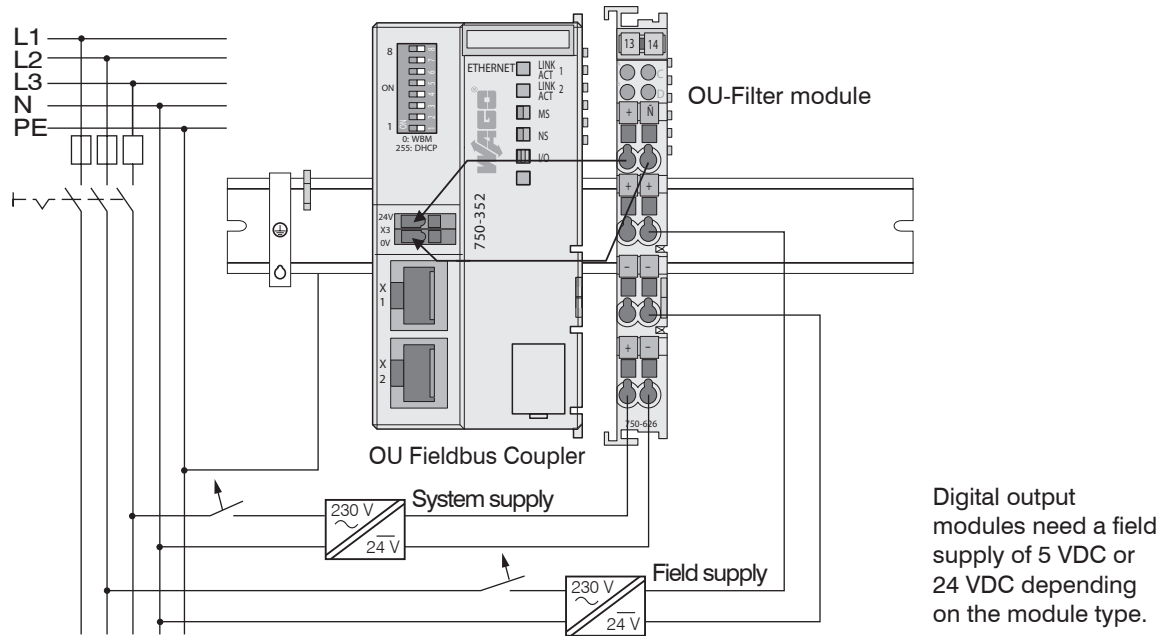

Fig. 24 Separated power units for system and field supply (Ethernet)
- ➡ Connect the “System supply (out)” terminals of the OU-Filter module to the “System supply (in)” terminals of the OU-Fieldbus Coupler (0 V and 24 V, see Fig. 24).
- ➡ Connect the system supply (in) of the OU-Filter module to the power supply (0 V and 24 V, see Fig. 24).
- ➡ Connect the field supply (in) of the OU-Filter module to the power supply (0 V and 5 V/24 V, see Fig. 24).